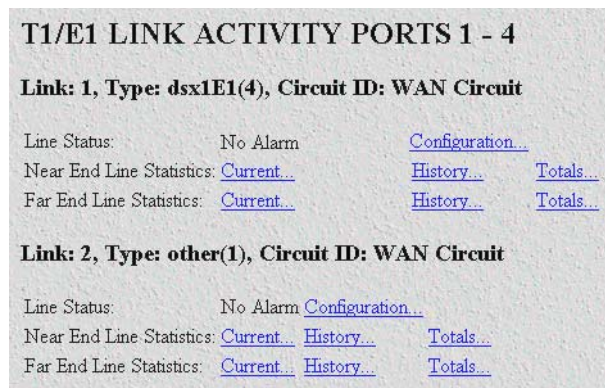

Figure 42. T1/E1 Link Activity Ports 1 – 4 page.
2. *View Link 1* corresponds to the first WAN circuit on the T-DAC. To the right of *View Links 1-4* click the *View Links...* hyperlink to open the T1/E1 LINK ACTIVITY PORTS 1 – 4 page (figure 42).